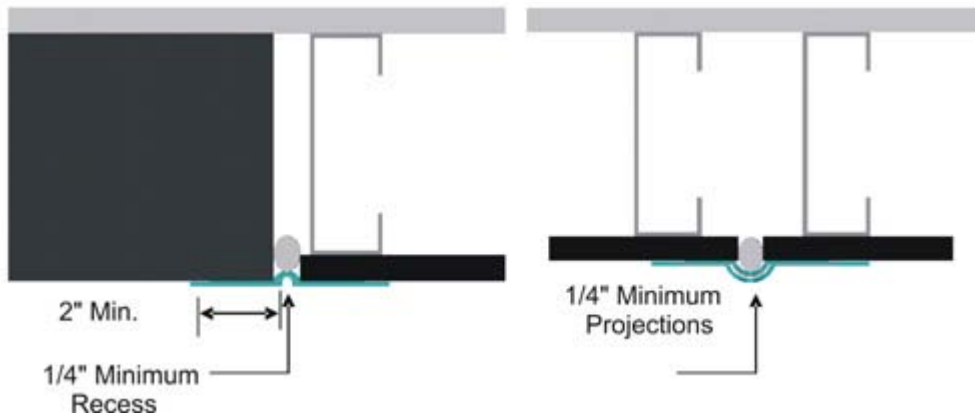

Figure 4
5.1.2.1. The width of the AquaFlash Mesh must overlap each side of the joint a minimum of 51 mm (2 in) – Figure 4.